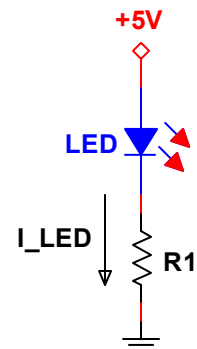

Fig. 2: LED circuit.
- **Problem 1:** Fig. 2 shows our LED circuit. It’s really simple -- just a +5V power supply, the LED, and a resistor. A red LED typically has a “forward voltage” of  $V_F = 2.1\text{V}$ . Choose a standard 5% value for R1 that produces an LED current of 30 mA (slightly lower is fine).